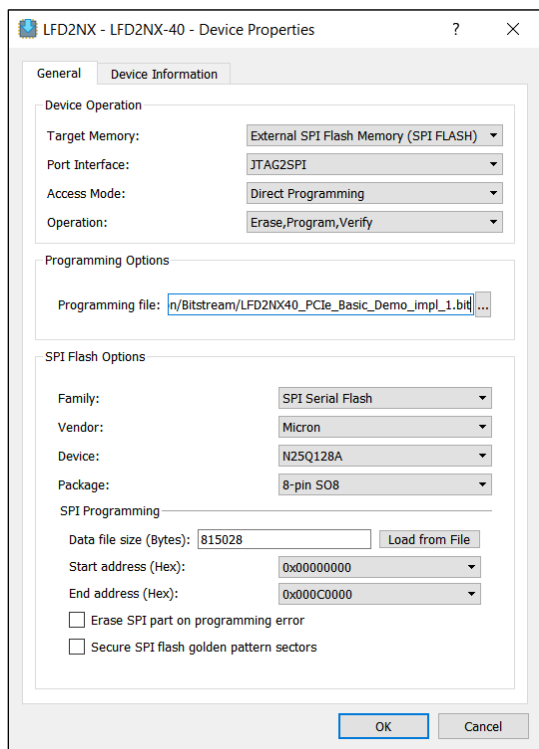

Figure 5.13. Device Properties Window for Certus-NX SPI Flash Programming
- For Certus-NX, select the settings as shown in Figure 5.13.